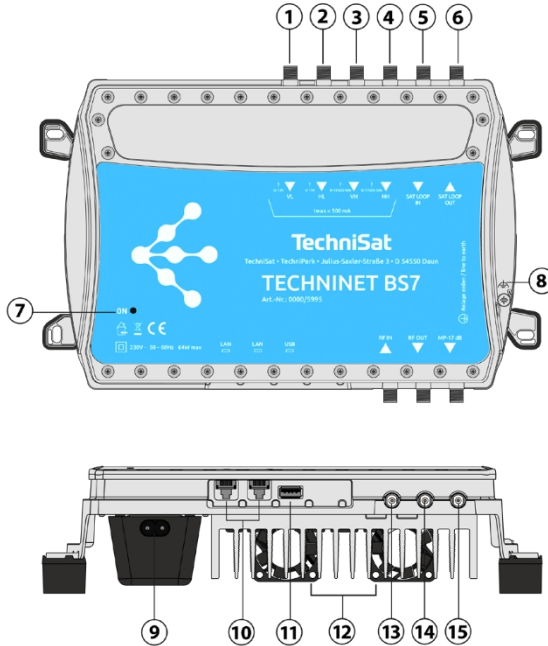

Fig. 6.1-1: Operating elements and connections
1. Connect an equipotential bonding conductor (Cu, $\geq 4 \text{ mm}^2$) to the earthing screw; see ⑧ in Fig. 6.1-1 on page 5.
3. Connect RF signal lines for satellite IF and output; see Fig. 6.1-1 on page 5.